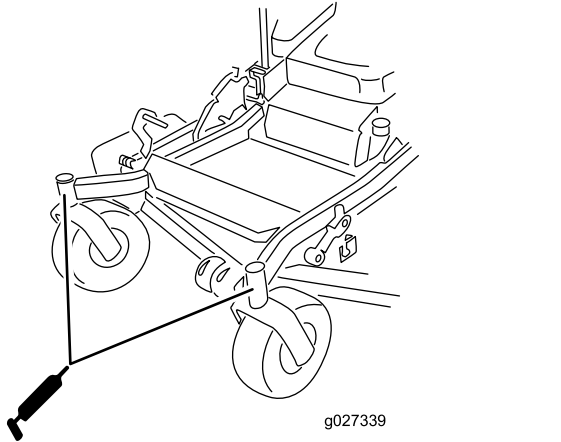

Figure 42
10. Install the hex plug and dust cap (Figure 42).
11. Grease the caster-wheel bearings (Figure 42).